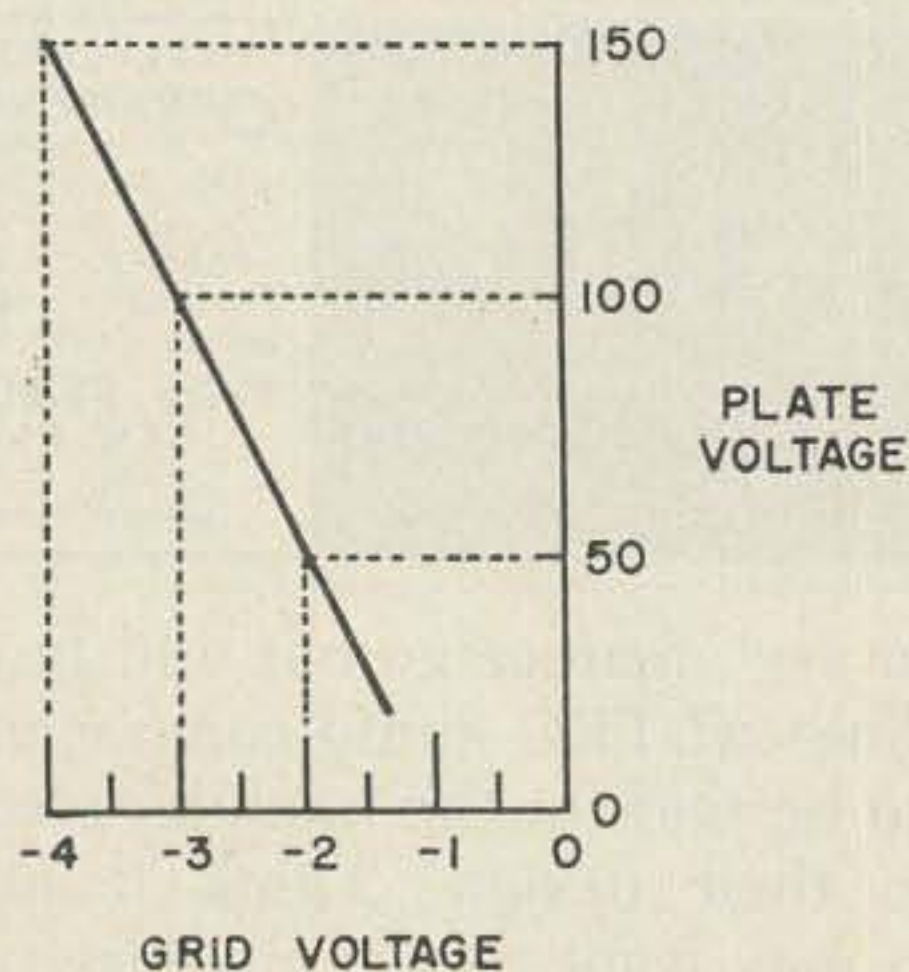

FIG. 1
The ALTEC 457B Transistor Amplifier is typical and the schematic is shown in Fig. 1. This unit provides 37 db gain from and into 600 ohm loads and delivers a maximum output power of +18 dbm. Distortion is low and output is flat within 1 db between 200 and 3,000 cps.
**Fig. 1 Schematic diagram of the ALTEC 457B Transistor Amplifier. This little unit provides 37 db gain and has a maximum output of +18db. Gain may be increased to over 50 db by opening the C4-R9 feedback loop.**
familiar with the term, is simply a graph which shows output voltage of a circuit in relation to input voltage. For a triode amplifier, it would read instantaneous plate voltage on the vertical scale in relation to instantaneous grid voltage on the horizontal scale (Fig. 1).
Taking that amplifier in Fig. 1, let's examine it. The graph says that when the grid voltage is minus 3, plate voltage is 100. When grid voltage is minus 2, plate voltage drops to 50. When grid voltage is minus 4, plate voltage rises to 150.